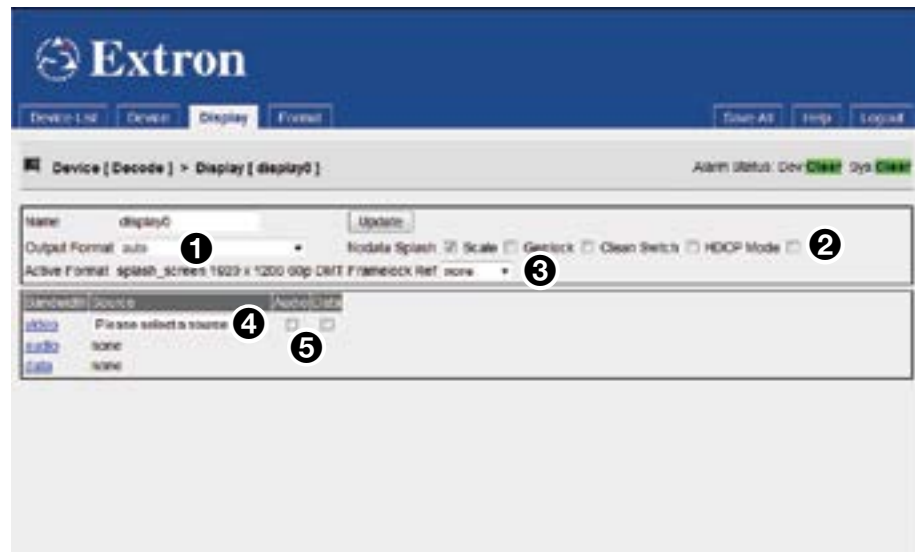

Figure 58. Display Tab
The Display tab opens with display options (see figure 58 and Display tab on page 59).
2. Set the **Output Format** from the drop-down list (see figure 58, ❶):
3. Enable or disable the **Nodata Splash**, **Scale**, **Genlock**, **Clean Switch**, and **HDCP Mode** check boxes (❷). For more information, see Display tab check boxes on page 59.
4. If required, use the **FrameLock Ref** drop-down list (see figure 58, ③, on the previous page) to set up membership of a decoder genlock group (see FrameLock Ref on page 60).
5. Select a video source from the **Source** drop-down list (④).
6. If required, select the **audio** and **data** check boxes (⑤).